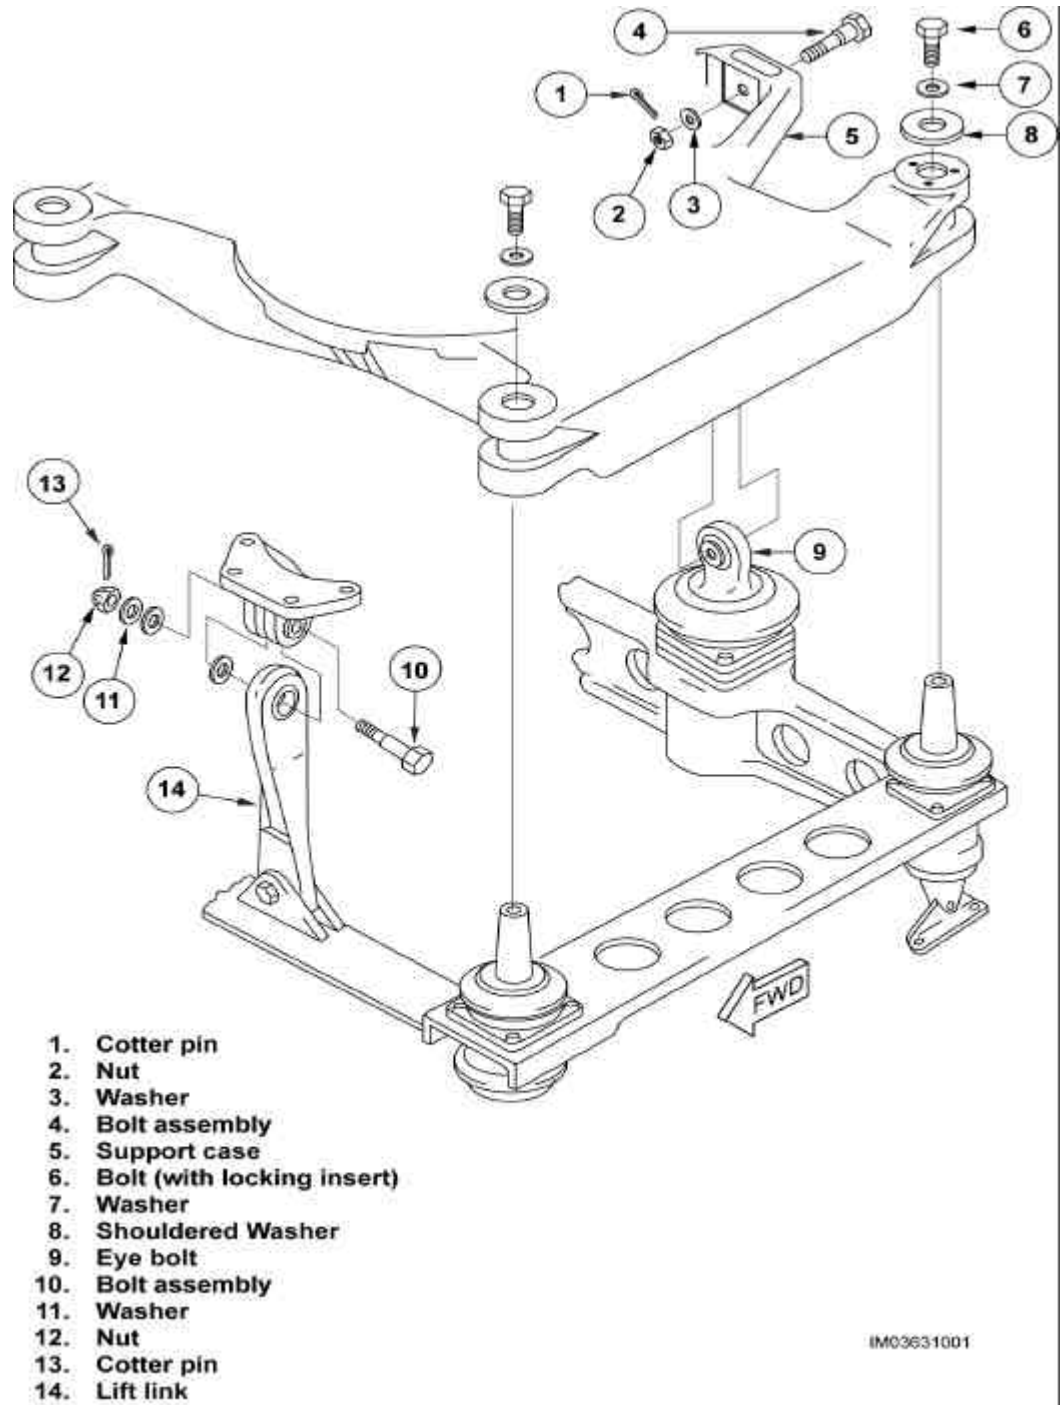

Figure 1. Transmission support case pylon attachment.
6. Remove four pylon lateral mount bolt assemblies (6, figure 1), washers (7), and shouldered washers (8).
7. Remove cotter pin (13), nut (12), and washer (11), from upper lift link bolt assembly (10). Do not remove bolt (10) from lift link (14).
8. Remove cotter pin (1), nut (2), and washer (3) from bolt (4) securing 5th mount eyebolt (9) to transmission A-frame (5) and remove bolt (4).
41. Install bolt (4, figure 1) through transmission A-frame (5) and 5th mount eyebolt (9) and install washer (3) and nut (2). Torque nut 25 to 33 foot-pounds (34 to 44 Nm) and cotter pin (1).
42. Install washer (11) and nut (12), on upper bolt assembly (10) in lift link (14). Torque nut 60 to 80 foot-pounds (81 to 108 Nm) and cotter pin (13). Install access doors on pylon island.
43. Install four shouldered washers (8), washers (7), and pylon lateral mount bolt assembly (6). Torque bolts 90 to 105 foot-pounds (122 to 142 Nm).